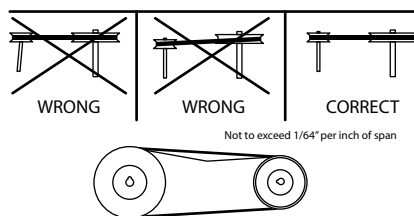

Figure 1: Pulley Alignment
2. If unit is supplied without the motor, belt(s), and pulleys, while ventilator is on its side, mount motor and install the sheaves and belt(s). See Figure 1. Connect power cable to motor as indicated on motor name plate or terminal box cover. Allow sufficient slack in power cables for belt tension adjustment.